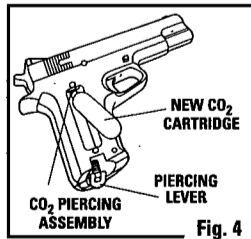

Fig. 4
- With the right grip cover removed, insert a new CO2 cartridge into the soft air pistol with the small neck of the cartridge pointing toward the piercing assembly (Fig. 4).